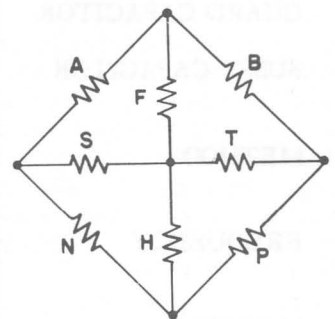

Figure 3. Five-terminal Bridge.
**2.2.1 BALANCE CONDITIONS.** With the addition of a fifth point to a conventional four-arm bridge network it becomes possible to measure the direct impedance between two points of a three-terminal network. Such a network is shown in Figure 3, with impedances between the fifth point and each of the four corners of the bridge. It can be shown that the network is in balance if either of the following conditions are met:
**2.2.2 TERMINOLOGY.** The terminology used in connection with a network such as that of Figure 3 is not clearly established. The word "guard" is often used to designate the third point in a three-electrode measuring system, the implication being that the third electrode "guards" the two measuring electrodes. However, the usage with respect to the measuring network itself is less consistent. The circuit arrangement used in the Type 716-P4 Guard Circuit is often called a "Wagner Ground". On the other hand, the circuit connected across the voltage source is often called a guard circuit and the circuit across the detector a coupling circuit. This terminology can cause trouble if the generator and detector are interchanged, as they may be, particularly in a low-voltage bridge.
**2.2.3 METHOD OF BALANCE.** There are several possible ways to adjust the elements of Figures 3 and 6 to satisfy equations (1) and (2). The method used in the Type 716-P4 Guard Circuit is to connect the guard point to the junction of the arms N-P, placing S-T in parallel with N-P. Successive balancing of the bridge alone and of the guard circuit and bridge in parallel will satisfy the conditions of equation (2). The coupling circuit can be balanced in a similar manner by successive adjustments of the bridge alone and with the coupling circuit (F-H) in parallel with B-P. In the Type 716-P4 Guard Circuit, appropriately shielded switching is provided for transferring the guard point to the various bridge corners as desired.
**2.3.1 GUARD CIRCUIT.** The guard circuit proper consists of a variable capacitor and a set of resistive arms (corresponding to S and T in the general network of Figure 3), one of which is a fixed resistor, the other variable, consisting of a pair of rheostats for coarse and fine adjustments. The variable capacitor and variable resistor together permit complete adjustment of the guard circuit.
**2.3.2 COUPLING CIRCUIT.** The coupling circuit consists simply of the fixed capacitance between inner and outer shields (H, Fig. 3) and adjustable resistors (F) connected between the guard point and the junction of the resistive arms of the bridge. This allows a partial coupling balance, balancing the capacitive component of the guard-to-ground terminal impedance. The availability of means for partial balance of the coupling circuit facilitates the balancing of the guard circuit.